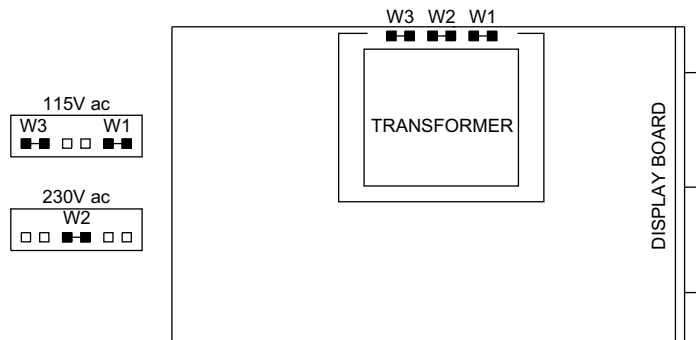

Figure 3.1 Main Board Power Jumpers
3.2 MAIN BOARD POWER JUMPERS (refer to Figure 3-1)
Figure 3-1 shows the location of solder jumpers W1 through W3.